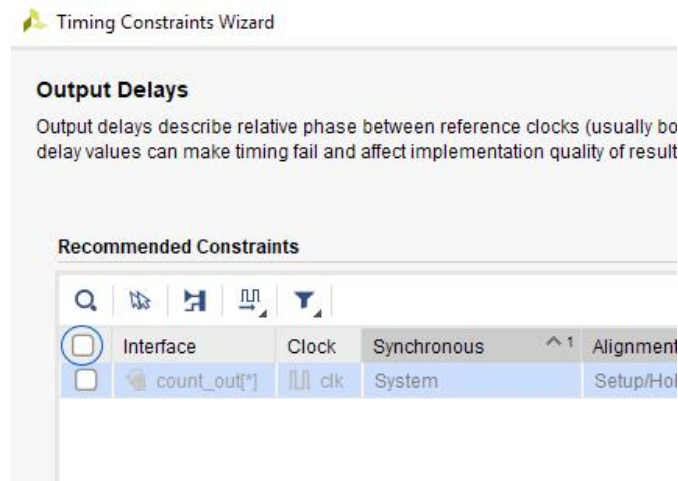

Figure 32
13. Vivado automatically recommends constraining all the output signals that are going to drive the LEDs. However, LEDs do not have clock and therefore, no synchronization is needed. To unselect all signals, uncheck the top left box (Figure 32) and click **Next**. Refer to chapter 3 of the “UltraFast Design Methodology Guide, UG949” for further information about constraining input and output ports